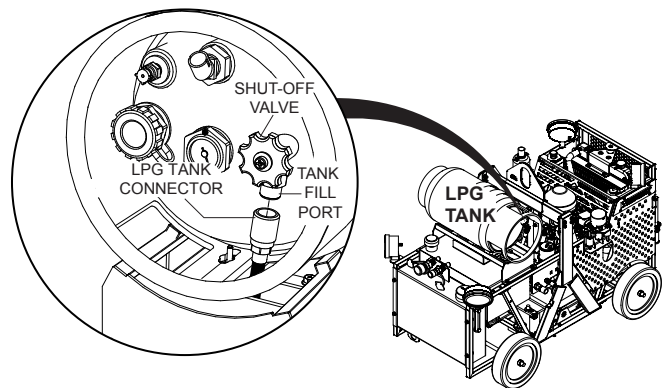

Figure 3. Close Tank Valve and Disconnect Connector
1. **CLOSE** shutoff valve on LPG tank and disconnect LPG tank connector from LPG tank fill port (Figure 3).